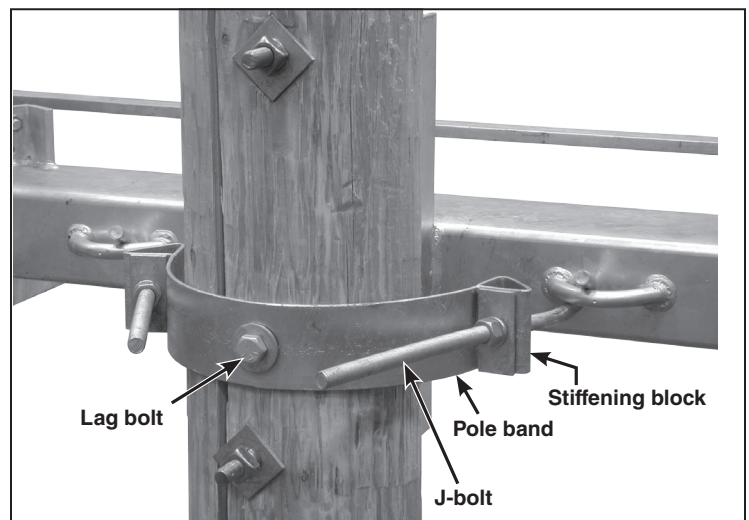

Figure 10. Attach the pole band and J-bolts.
STEP 8. Attach the pole band to the switch base anchor brackets using the J-bolts furnished. Use a stiffening block under each nut. See Figure 10.